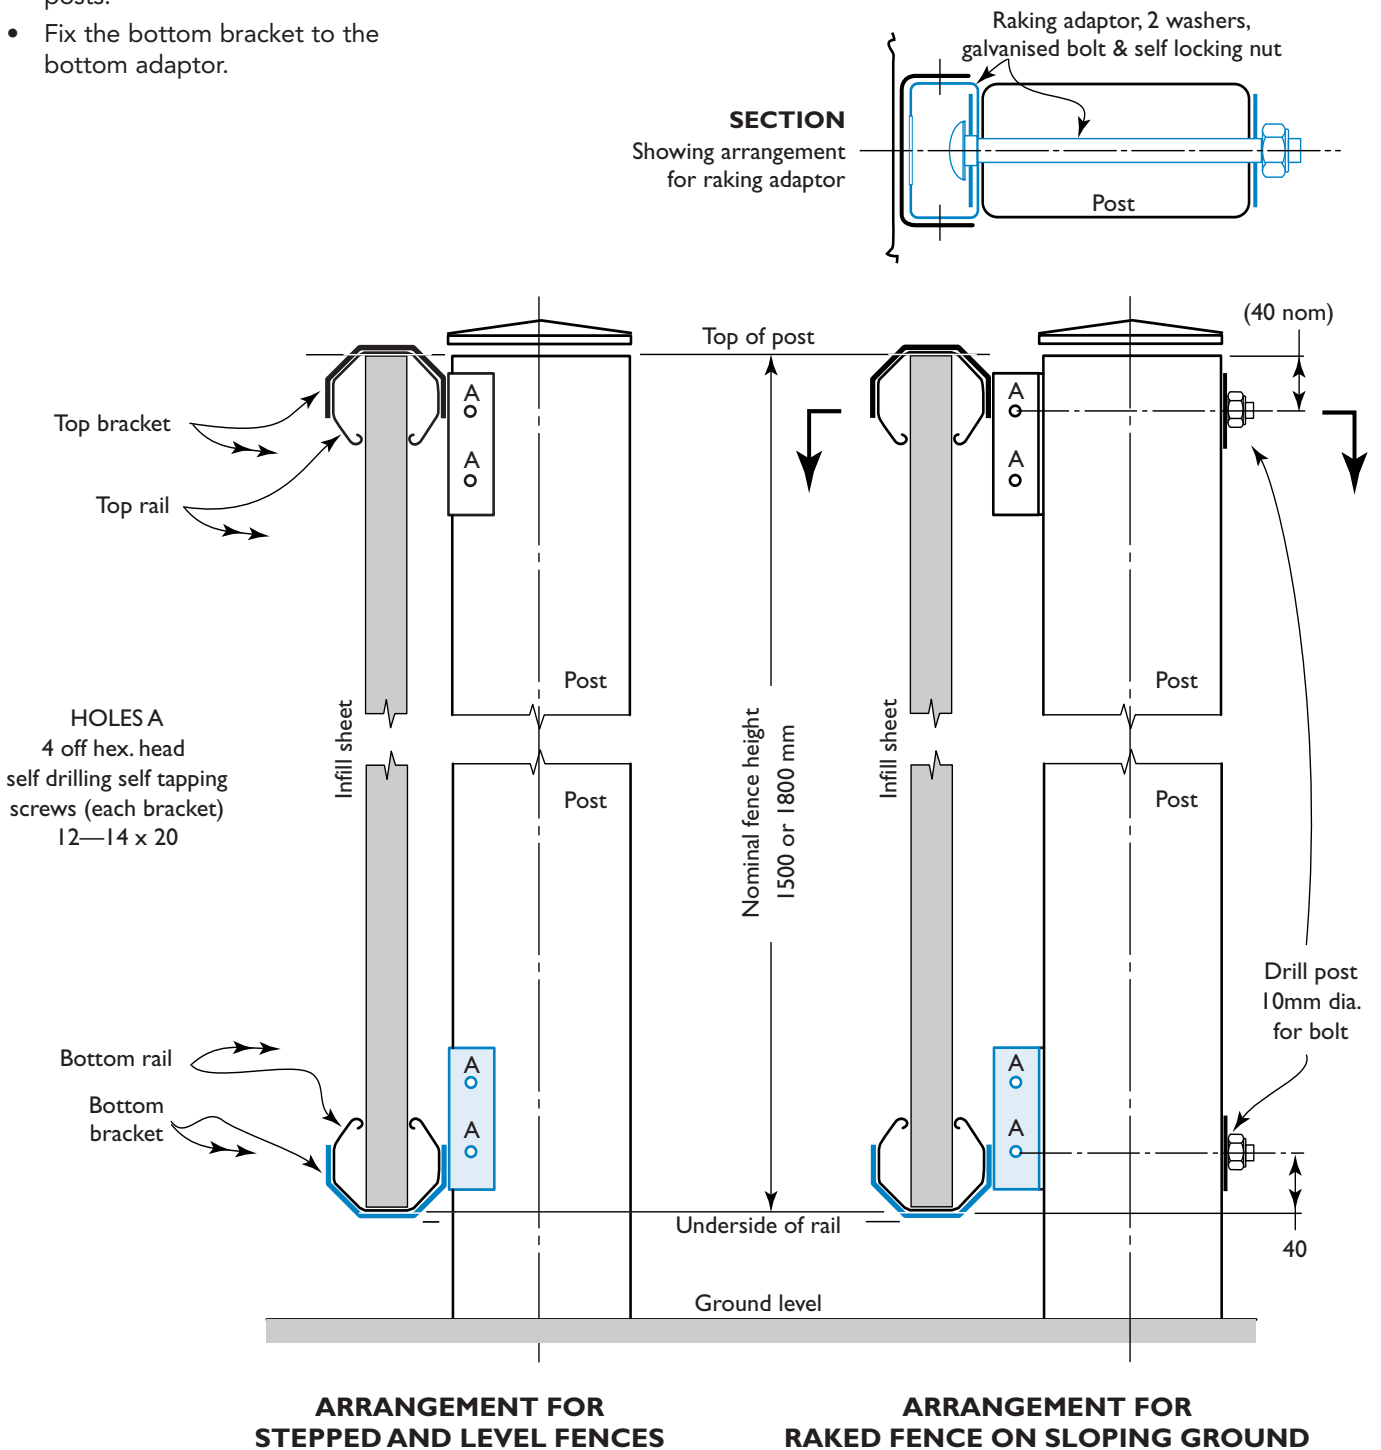

Figure 10
Fix the bottom bracket to the posts, located as shown in Figure 10.
- Drill posts for the top and bottom raking adaptors (Figure 10).
A fence panel can be reduced from the nominal width, without cutting infill sheets, by the increments shown in Figure 10. Rails and lattices must be cut to suit a narrow fence panel.
Insert a top universal rail between two posts and over the top edge of the infill sheets (Figure 10).
Place a rail support bracket to clamp the rail and fix it with four hex head screws (Figure 10). If using raking adaptors, tighten the nuts (Figure 10).